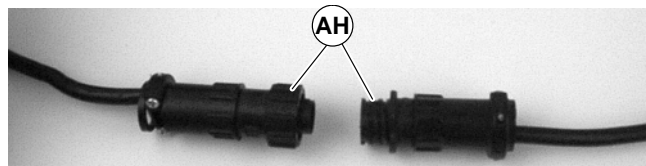

Figure 13
3. For DC variable speed motor, unplug motor cord at disconnect (AH of Figure 13).